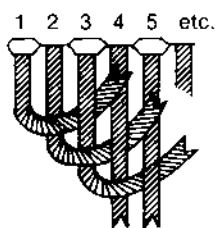

FIGURE 9. Finishing braid
(12) When bobbins of color are wound, one does **NOT** **PLY** them as that creates a cord-like yarn. Thus, to keep the yarns as flat and as even as possible, the threads are wound onto the bobbin very tightly and flat.
(15) **FINISHING** involves five procedures. First, all slits of about three or more passes should be sewn. A running stitch, picking up weft alternately from both sides of the slit, is used. Second, if there are loose weft threads that might work their way to the front of the tapestry through a slit, they are sewn back. Third, be certain to tack down all threads that might hang down below the bottom edge of the tapestry. Fourth, braid (see Fig. 9) warp fringes to secure them. Steam press the hems with a metal straightedge and a very wet tea towel over all to get a nice clean edge. After sewing down the hems, steam press the entire tapestry from the back only, to square and to flatten out any discrepancies. Fifth, sew a piece of pre-shrunk twill tape about 3" (7.5 cm) wide to the top back of the tapestry, leaving $\frac{3}{4}$ "-1" (2-2.5 cm) above the tape, or $\frac{1}{4}$ " (6.5 mm) plus the size of the screw eye. Staple this tape to a 2" x $\frac{1}{2}$ " (5 x 1.25 cm) board into which screw eyes can be attached for hanging.